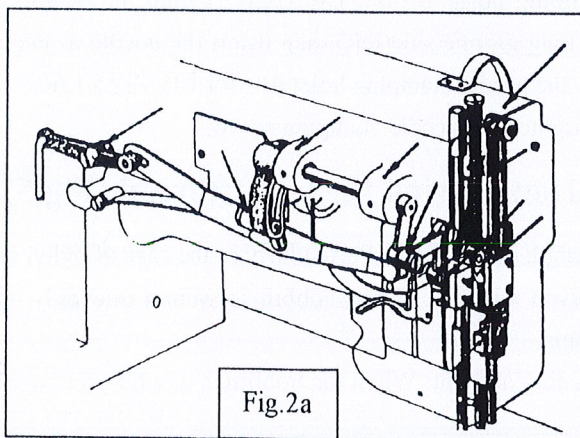
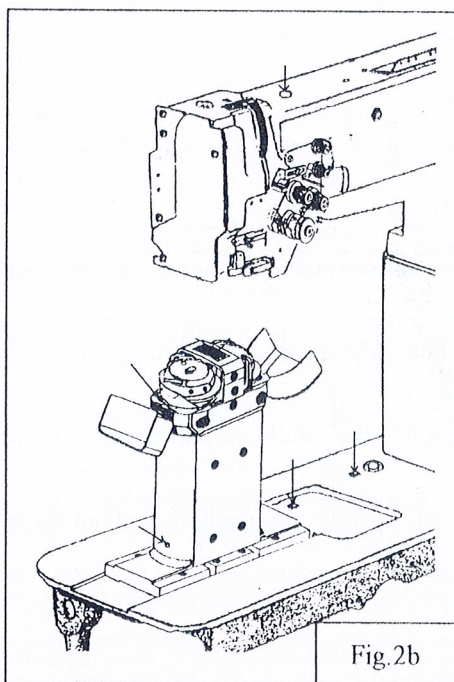

Fig.2a
Fig. 2b
2. Lubrication (2) (Fig.2a, Fig.2b)